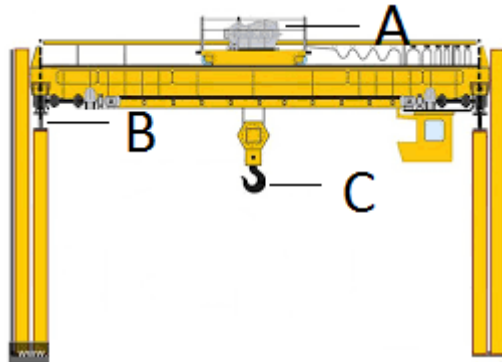

FIGURE 2
7.2 FIGURE 2 shows an overhead travelling crane. Name the labelled parts by writing only the answer next to the letter (A–C) in the ANSWER BOOK.